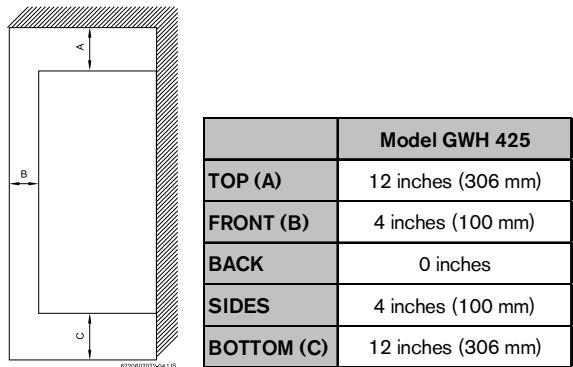

Fig. 4 Minimum clearances
The GWH 425 HN is design certified for installation on a combustible wall (see 3.4 Mounting installation) provided the floor covering below the heater is noncombustible. For installations in an alcove or closet, maintain the minimum clearances to combustible and non-combustible materials listed below. See also Fig. 4.
- ▶ A 5 inch diameter gas vent constructed of double wall Type B gas vent is recommended. A 6 inch vent is required in elevations greater than 2000 feet, see Fig. 4. Under no circumstances should the vent pipe be reduced in size.